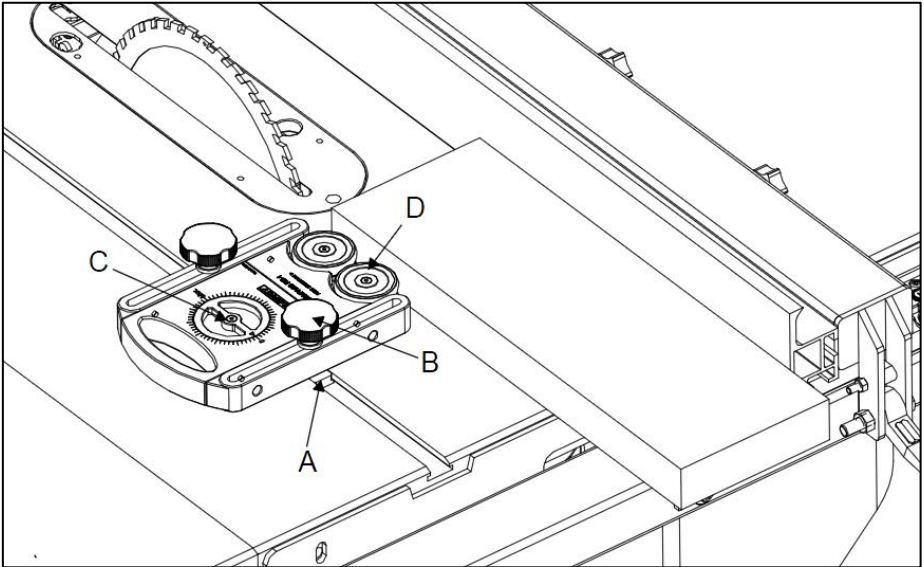

Fig.2
The following application is intended for the use on the table saw (as shown in Fig.2), which can be taken as a reference for the operations on other machines:
2. Rest the workpiece against the fence (as seen in Fig.2);
3. Loosen the locking knobs (B) and insert the T-block (A) into the T-slot;
4. While locking knobs are loosened, turn the adjusting knob (C) to the zero "0" position;
5. Push the roller guide towards the workpiece until the two rollers (D) touch the workpiece, while the other side of workpiece firmly pushed against the fence;
6. Lock the roller guide on the table by tightening the locking knobs (B);
7. Turn the adjusting knob (C) to apply pressure to the workpiece. Rotating the adjustment knob in either direction (clockwise or counter-clockwise) will work;